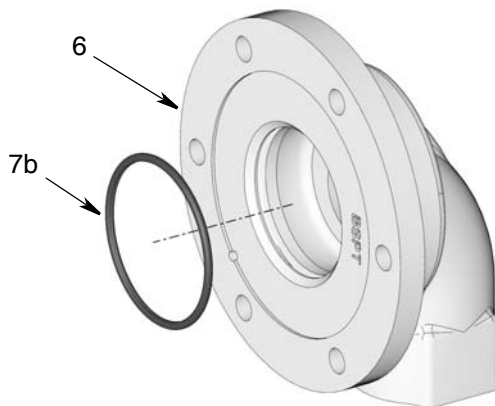

FIG. 40
- c. Install the new black o-ring (7b) first. Use your fingers to press it into the groove located inside the neck of the inlet assembly (6) (FIG. 40).